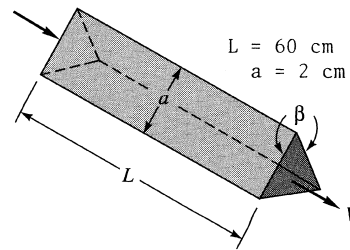

Fig. P6.91
6.91 Heat exchangers often consist of many triangular passages. Typical is Fig. P6.91, with $L = 60$ cm and an isosceles-triangle cross section of side length $a = 2$ cm and included angle $\beta = 80^\circ$. If the average velocity is $V = 2$ m/s and the fluid is SAE 10 oil at 20°C , estimate the pressure drop.